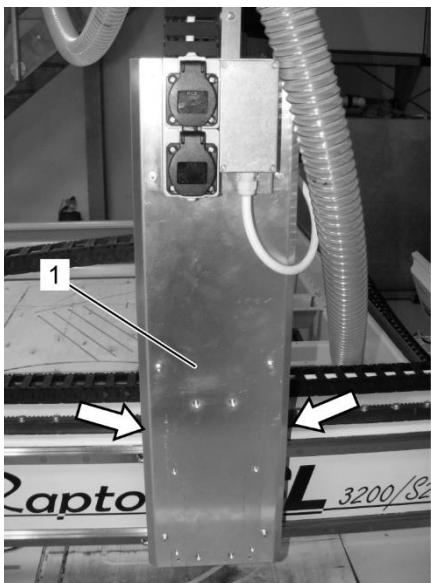

Fig. 43: Grease nipples Z-axis (arrows)
The grease nipples on the Z-axis are found behind the cover plate on the Z-axis (Fig. 43/1).
2. Position Z-axis so that the grease nipples are aligned with the holes in the cover (Fig. 43/arrow).
10. Position the Z-axis so that the second set of grease nipples are aligned with the holes in the cover (Fig. 43/arrows).